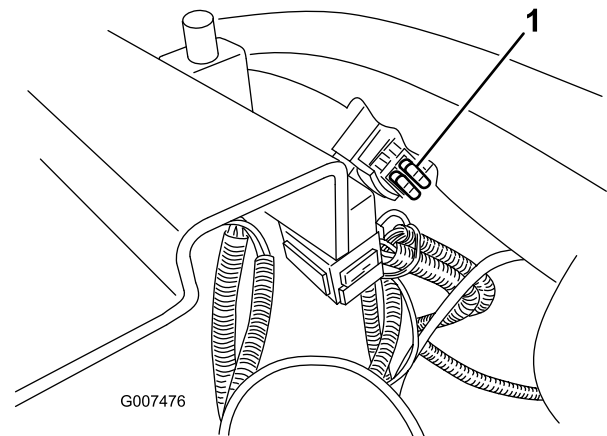

Figure 31
1. Pull out the fuse (Figure 31) to remove it from the socket.